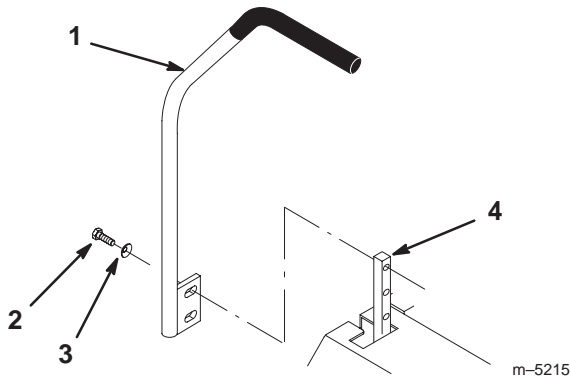

Figure 3
1. Remove the 4 bolts (3/8 x 1 inch) and 4 curved washers (3/8 inch) which attach the motion control levers to the control arm shafts for shipping (Fig. 3).
- Place the levers (with the mounting plates toward the rear of the machine) on the outside of the control arm shaft and loosely secure them with the 4 bolts and curved washers removed in step 1 (Fig. 3).